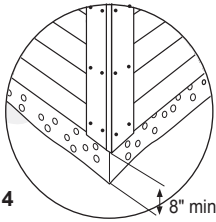

Figure 4
- Install James Hardie® products with a minimum 200 mm (8") clearance to the finished grade on the exterior of the building complying with Part 9.27.2.4 of the NBC (fig. 4).
- When installing James Hardie products all clearance details in figs. 4, 5, 6, 7, 8 & 9 must be followed.